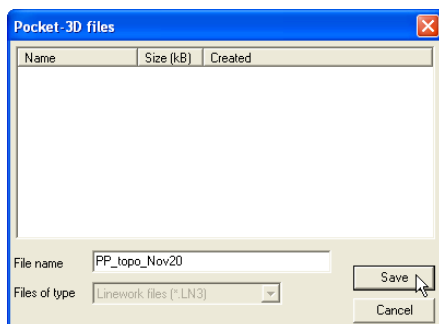

Figure 4-11. Save Linework File to Pocket-3D Controller
3. On the *Pocket-3D files* dialog box, do one of the following and click **Save** (Figure 4-11):